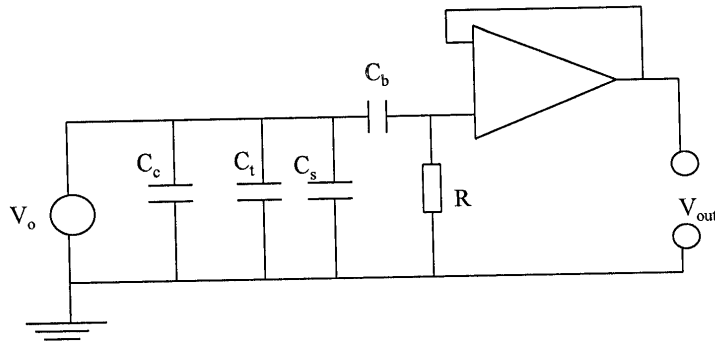

Figure 1: Voltage follower circuit
- (d) A voltage follower circuit driven by a piezoelectric transducer is given in Figure 1 below. Show that in this circuit, the voltage sensitivity of the piezo is  $S_v = S_q/C$ . [5]